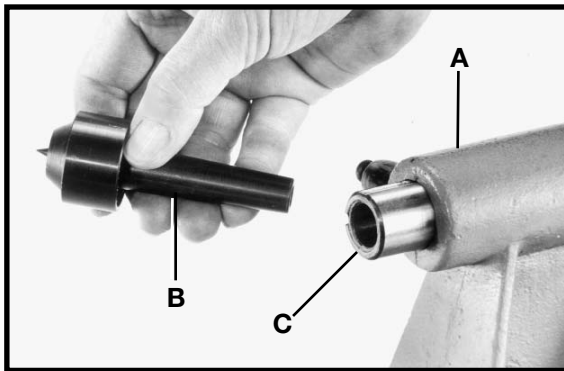
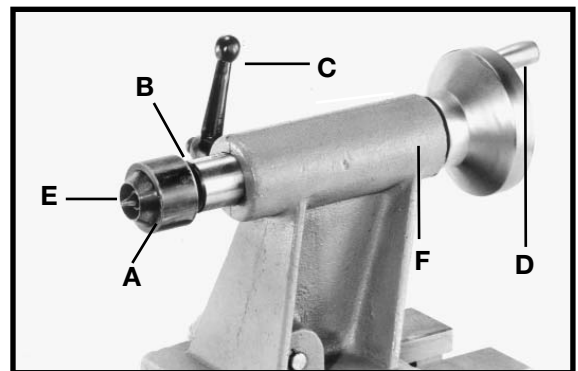

Fig. 12
Fig. 13
The tailstock live center (A) Fig. 12, supplied with your lathe, is equipped with a No. 2 Morse Taper shank (B) and is inserted into the tailstock spindle (C). To remove the live center (A) Fig. 13 from the tailstock spindle, loosen lock knob (C) and rotate handwheel (D) to move spindle (B) back into the tailstock body. This action will push the live center (A) out of the spindle (B). Use the knockout bar through the hollow tailstock (F) to remove the center point (E).